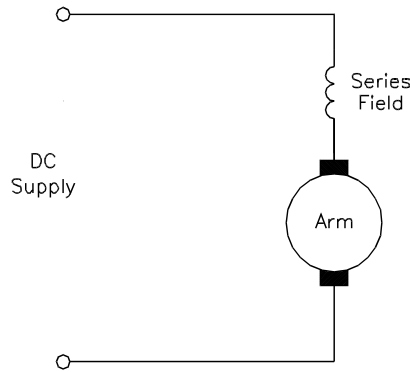

Figure 56. Series motor
34. The series generator has, as the name suggests, the armature connected in series with the field as shown in Figure 56.